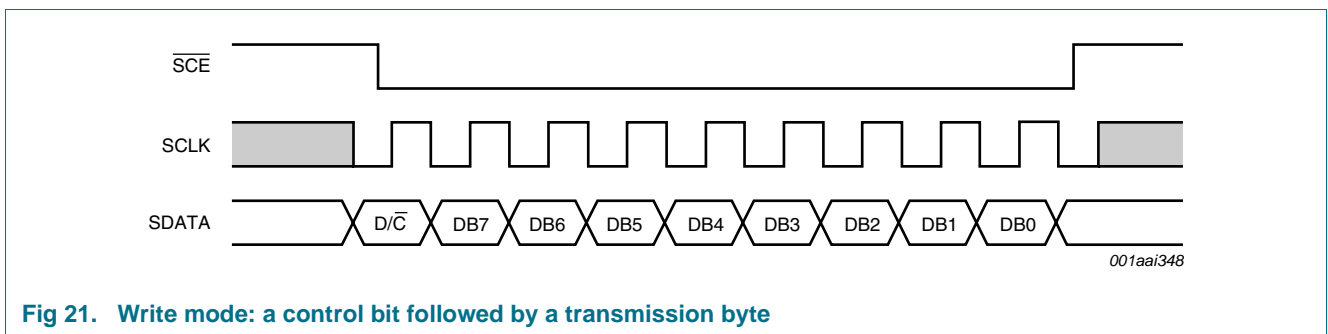
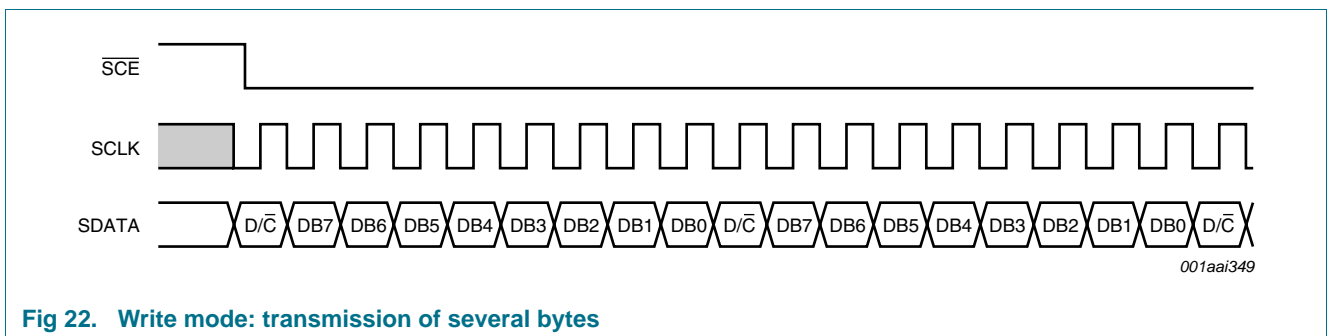
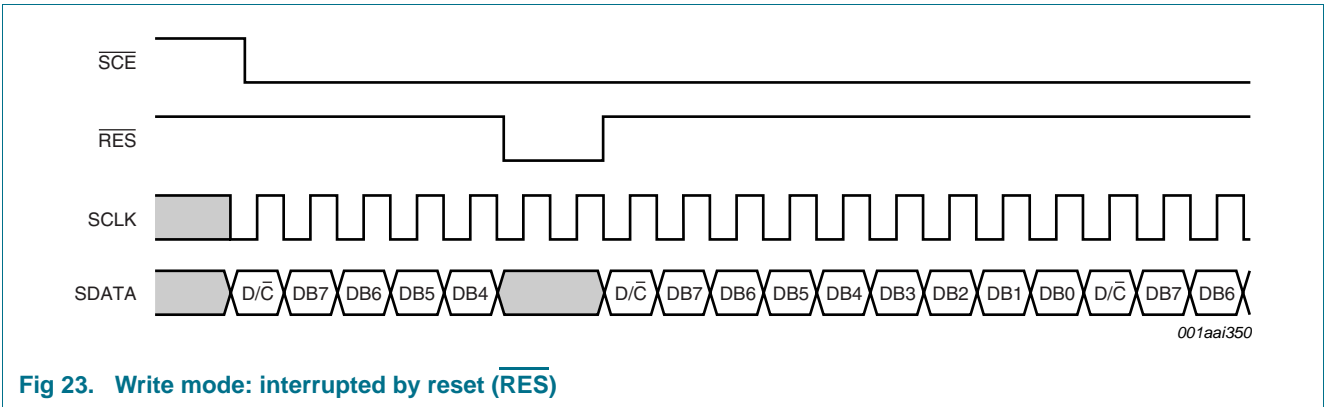

Fig 21. Write mode: a control bit followed by a transmission byte
Fig 22. Write mode: transmission of several bytes
Fig 23. Write mode: interrupted by reset ($\overline{\text{RES}}$)
Figure 21, Figure 22 and Figure 23 show the protocol of the write mode:
- If \overline{SCE} stays LOW after the last bit of a data/command byte, the serial interface receives the $\overline{D/C}$ bit of the next byte on the next rising edge of SCLK; see Figure 22
- A reset pulse \overline{RES} interrupts the transmission. The data being written into the RAM may be corrupted. The registers are cleared. If \overline{SCE} is LOW after the rising edge of \overline{RES} , the serial interface is ready to receive the $\overline{D/C}$ bit of a data/command byte; see Figure 23.